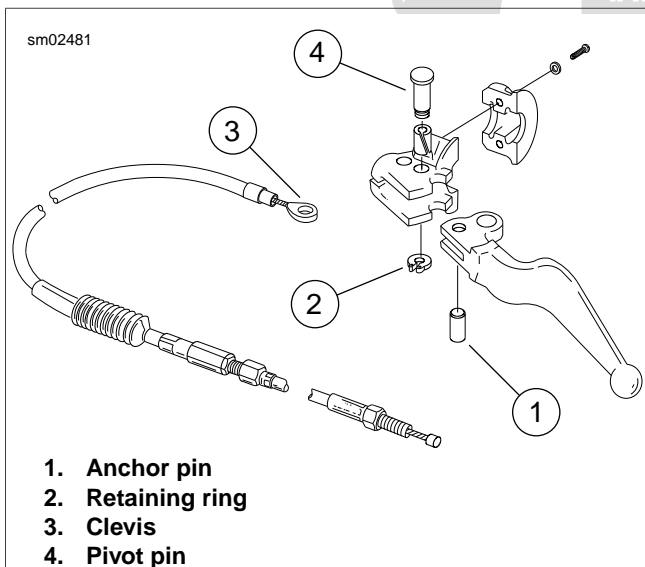

Figure 2-99. Clutch Cable Installation
2. See Figure 2-99. Remove the clutch cable anchor pin (1) from the hand lever. To remove anchor pin, it will be necessary to remove the retaining ring (2) and pivot pin (4).
7. See Figure 2-99. Insert anchor pin (1) through handle and clutch cable clevis end (3).
8. Place handle in bracket and install pivot pin (4) and retaining ring (2).